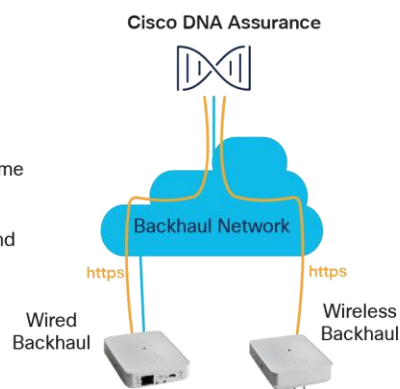

Figure 11.
If the sensor either (1) does not receive an IP address from the wired interface or (2) does receive an IP address from the wired interface but cannot discover Cisco DNA Center, it switches to the **wireless backhaul** as a second option to search for and connect to Cisco DNA Center (**Figure 11**). For this wireless backhaul option, the administrator must assign a sensor profile during the sensor PnP claiming step. In an SD-Access/fabric environment, the fabric edge that serves the sensor connection has a maximum transmission unit (MTU) that is automatically configured to 9100.